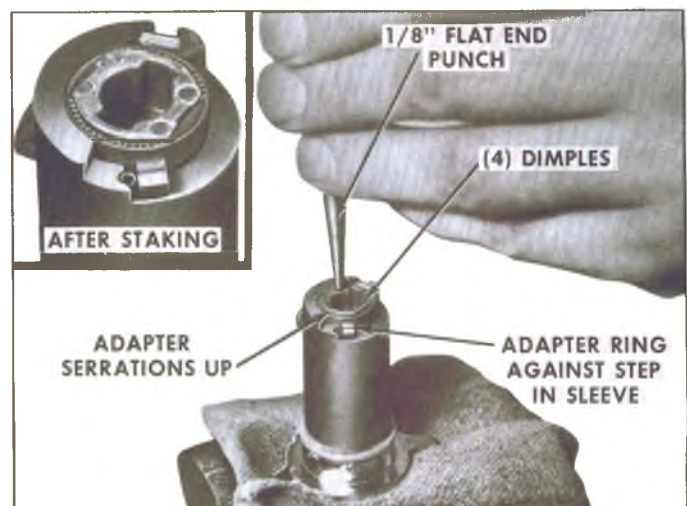

Fig. 58—Installing Adapter Ring
6. Place the adapter ring onto the lower end of the cylinder so that the finger of the adapter is located at the step in the sleeve and the serrated edge of the adapter is visible after assembly to the cylinder and before "staking" (fig. 58). The key must be free to rotate at least 1/3 of a circle (120°).
7. Using a small flat punch, at least 1/8" in diameter, stake the lock cylinder over the adapter ring in four places just outboard of the four dimples as shown in Figure 58.